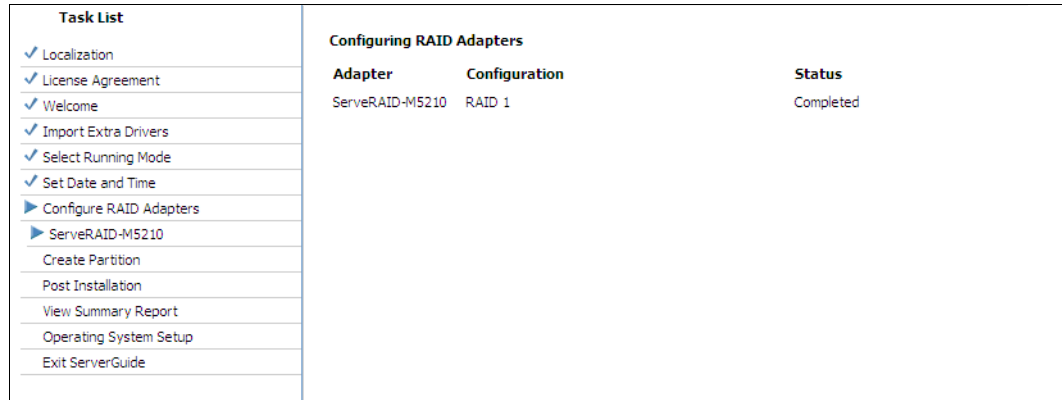

Figure 6-19 RAID confirmation panel
12.A Confirmation window opens that indicates that RAID configuration is complete, as shown in Figure 6-19. Click **Next**.